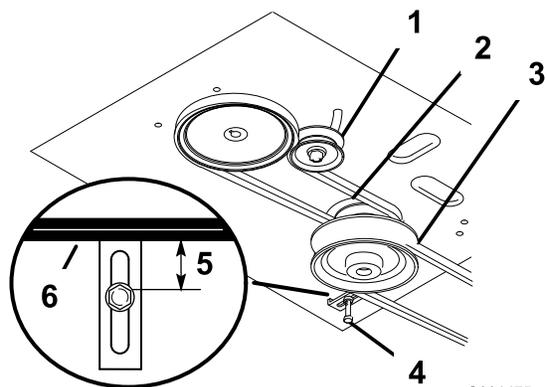

Figure 49
- 8. Check the belt guide under the engine frame for proper adjustment (Figure 49).
Note: The distance between the belt guide and the mower belt should be 19 mm (3/4 inch) when you engage the mower belt (Figure 49). Adjust the mower belt as necessary. The disengaged belt should not drag or fall off the pulley when the guides and belt tension are properly adjusted.